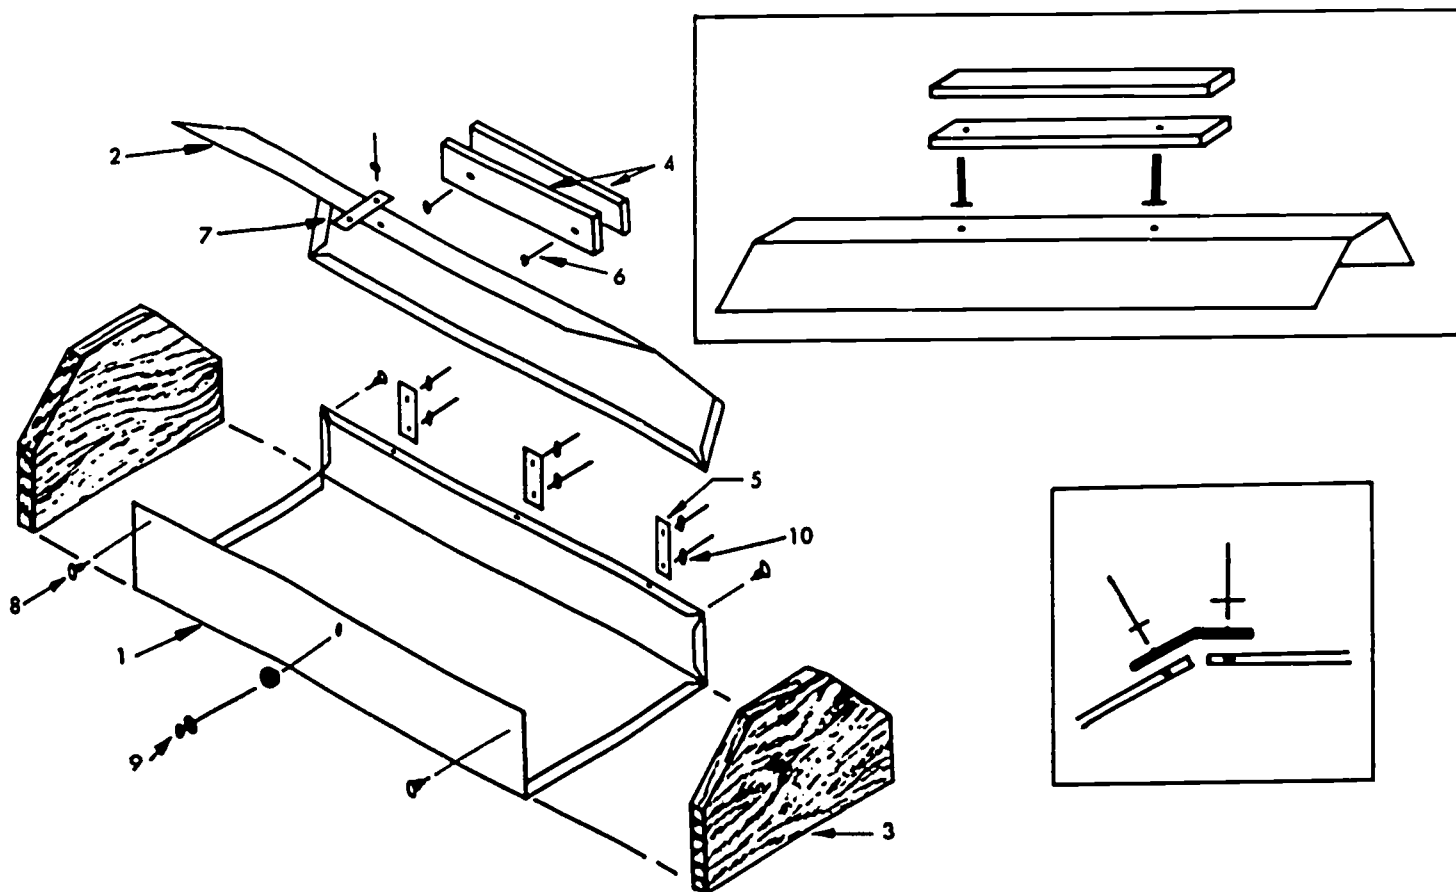

Fig. 126-1. Exploded View of Utility Box
1. Direct students to analyze the drawing, Fig. 126-1. (Fig. 70A-1 in their Laboratory Manual.)
6. Have students complete the Laboratory Manual counterpart of Parts List, Fig. 126-3 and the Route Sheet, Fig. 126-1 as you complete the transparency. Fig. 126-3 is L.M., Fig. 76A-2) (Fig. 126-1 is L.M., Fig. 76A-3.)